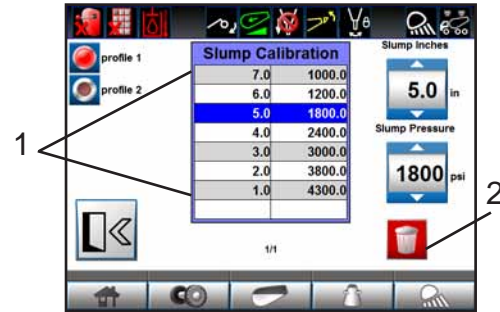

Figure 49
- Touch the line of the slump point you wish to delete (Figure 49, Item 1). The line will be highlighted.
- Touch the DELETE button (Figure 49, Item 2).